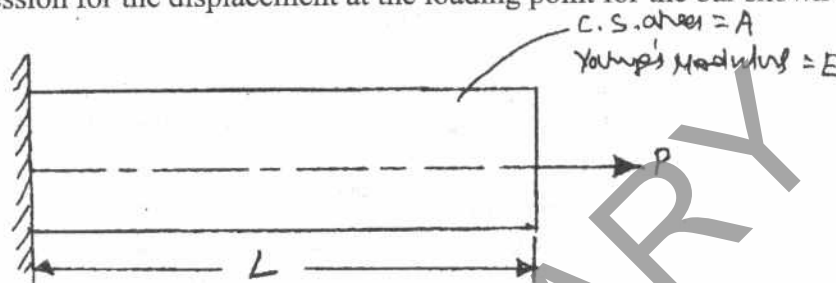

Fig. Q1 (b)
b. Find an expression for the displacement at the loading point for the bar shown in Fig. Q1 (b).